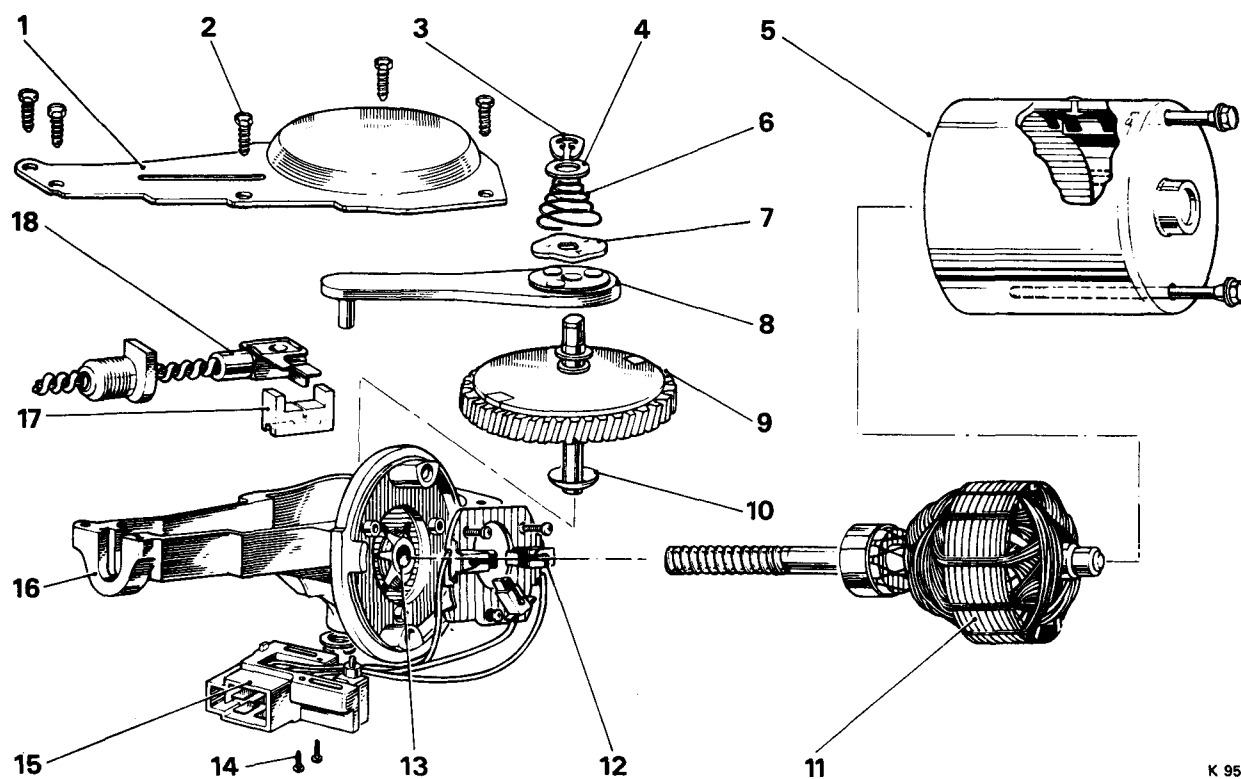

FIG. M74 EXPLODED VIEW OF 'LUCAS' 16 W WIPER MOTOR
'Lucas' 16 W wiper motor—To remove (see Fig. M74)
6. Remove the circlip and washer from the outer end of the drive gear shaft (see Fig. M74). Discard the circlip.
1. Fit the gear and parking device assembly into the motor, locating the drive rack on the peg of the connecting rod and ensuring that the parking switch slide is fitted to the drive rack and is facing the correct way, as shown in Figure M74. Note the position of anti streak mechanism on output gear crankpin and ensure that it is refitted in the same position. If the pin is fitted 180° out, the tag will break on first park cycle.
2. Fit the new rack, and replace the drive gear, fitting the dished washer, plain washer and using the new circlip provided. Ensure that the plastic parking switch operating slide is correctly located by the arm on the rack, and that the slide is fitted the correct way around as shown in Figure M74.